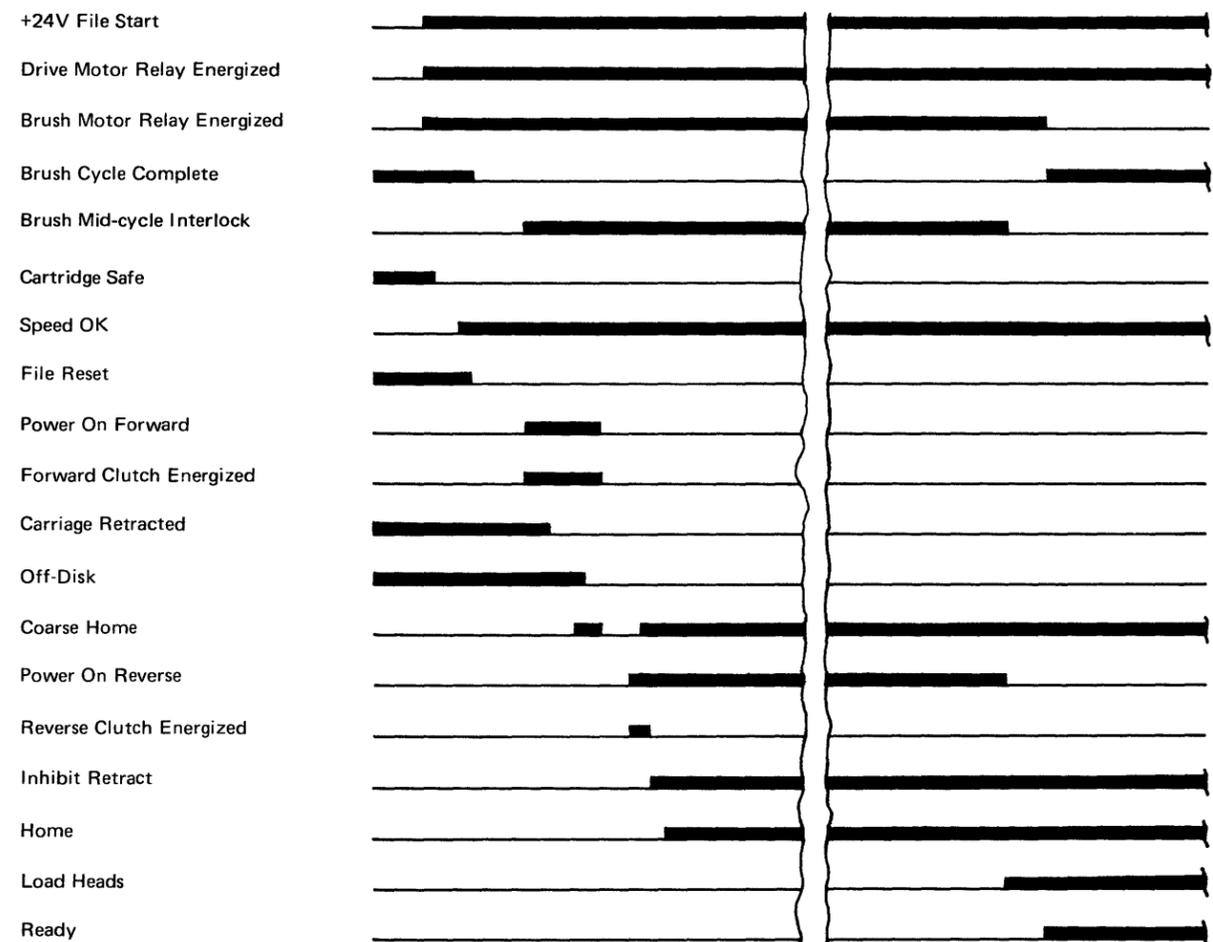

Figure 1-41. Start-Up Sequence – Timing [07502]
- Timing is given in Figure 1-41.